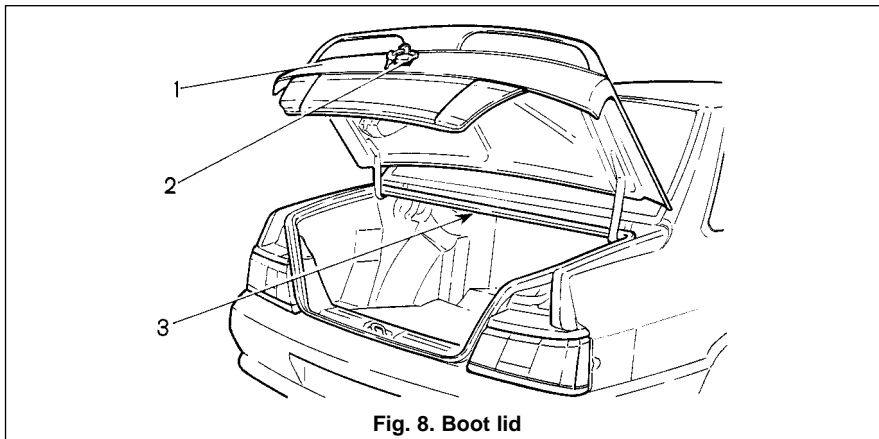

Fig. 8. Boot lid
To access the luggage compartment turn key 2 (Fig. 8) clockwise and holding it in this position lift boot lid 1. The boot lid is held open by torsion springs.